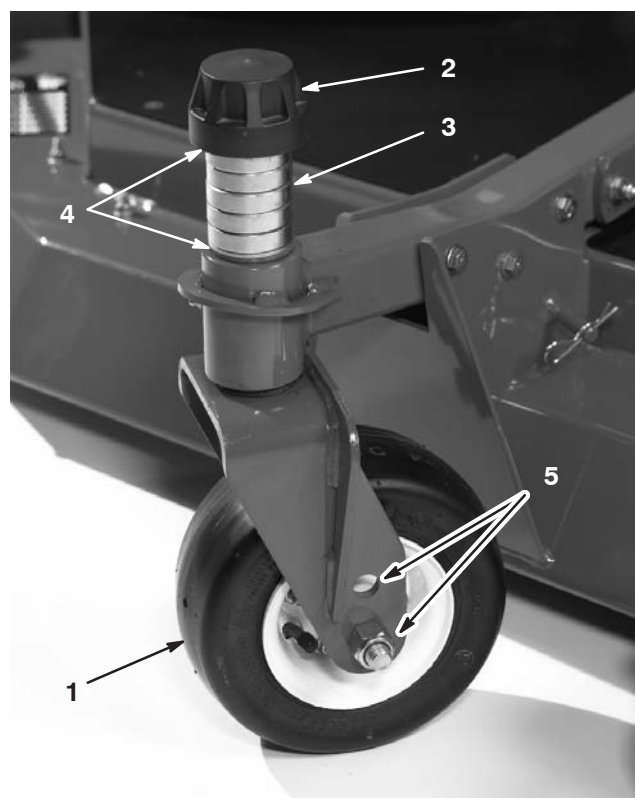

Figure 10
3. Remove the tensioning cap from the spindle shaft (Fig. 10) and slide the spindle out of the castor arm. Put the 2 shims (1/8 inch) onto the spindle shaft as they were originally installed. These shims are required to achieve a level across the entire width of the cutting units. Slide the appropriate number of 1/2 inch spacers (refer to the chart below) onto the spindle shaft to get the desired height-of-cut; then slide the washer onto the shaft.